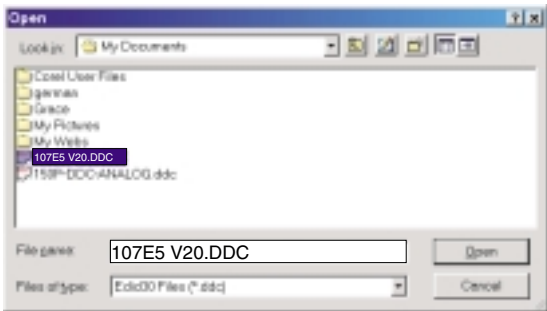

Fig. 20
- 2. Select the file you want to open as shown in Fig. 20.